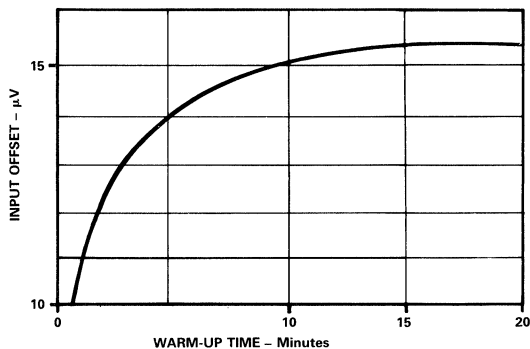

Figure 11. Offset Voltage RTI, Turn-On Drift
**Turn-On Drift:** The 1B32 offset voltage typically stabilizes to within 1μV of its final value in 10 minutes (Figure 11). The test conditions are: 350Ω bridge with a +10V excitation and ambient temperature of +25°C.